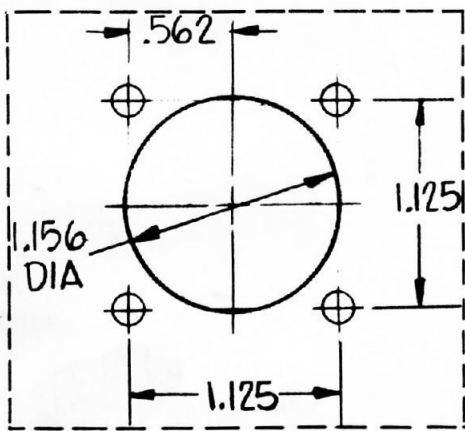
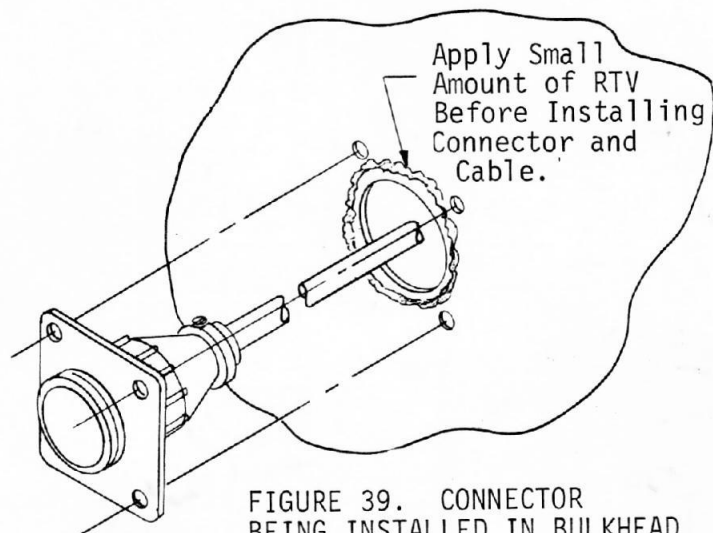

FIGURE 38. RHC TEMPLATE
FIGURE 39. CONNECTOR BEING INSTALLED IN BULKHEAD
1. Referring to Figure 39, drill 5 holes in the bulkhead. To aid in locating the hole pattern, a template is provided above (Figure 38). Insert the bulkhead cable and the connector through the holes and secure, using 2 wood screws or bolts (not provided).